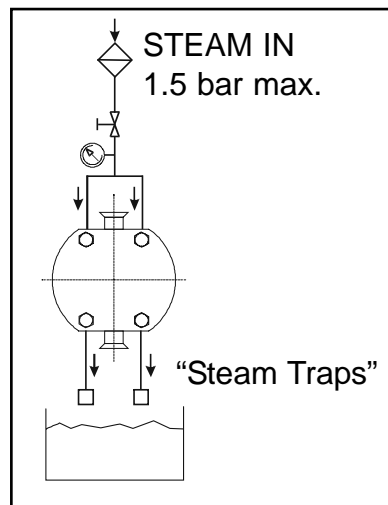

Figure 6: Steam Barrier Flush System For Double Mechanical Seal
- See figure 6 for suggested steam connection.
**Steam Barriers:** The pressure of steam should be as low as possible consistent with the desired temperature. Steam should be connected in at the highest point on the end cover and out at the lowest point to allow any condensate to drain from the lowest point. (see figure 6).